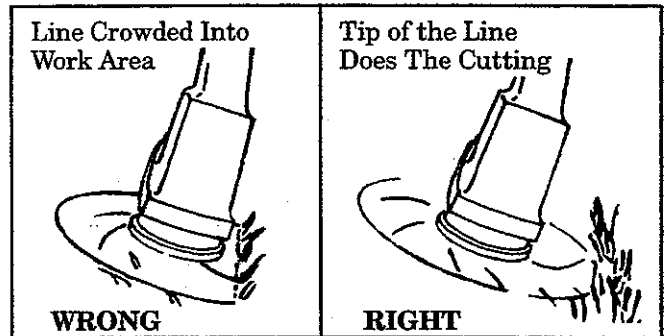

Figure 8
- The tip of the line does the cutting. You will achieve the best performance and minimum line wear by not crowding line into the cutting area. The right and wrong ways are shown in Figure 8.